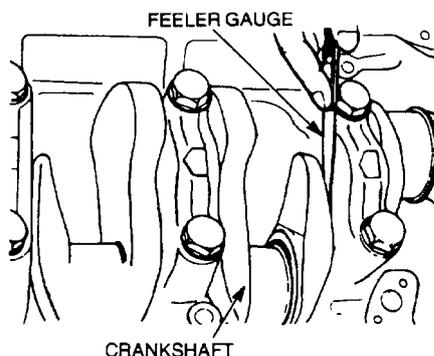

Figure 17 Checking the Crankshaft End-play
- (3) **Crankshaft End-play.** Measure the crankshaft end-play using a feeler gauge (Figure 17) and check that it is within the standard limits of 0.15 to 0.45mm (0.006 to 0.018 in).